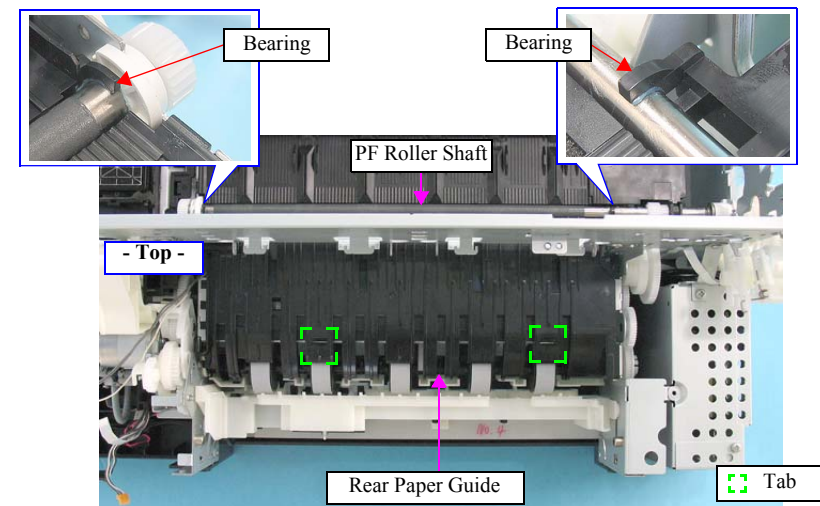

Figure 4-207. Removing the Rear Paper Guide
- When installing the Rear Paper Guide, securely attach its two bearings to the PF Roller shaft as shown in *Figure.4-207*.